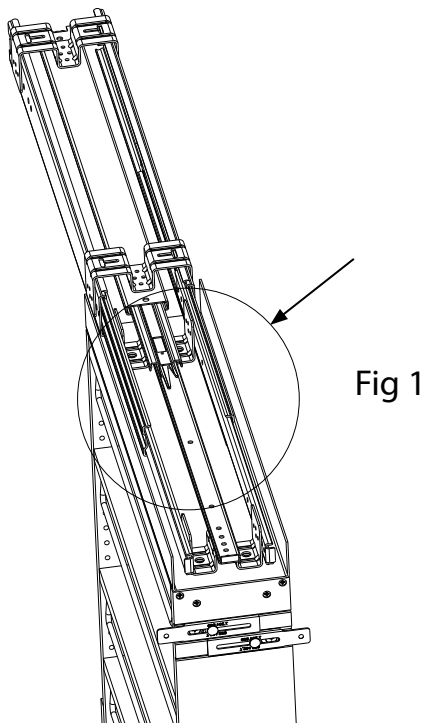
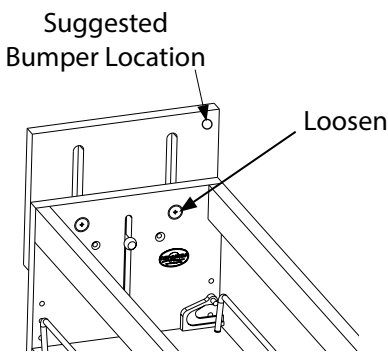

Fig 1
Fig 3
- 1) Remove cabinet member of the tri-slide from the pullout unit. It is recommended that the middle slide release be triggered first, followed by the two side slide releases. This is done by fully extending the slide (like opening the unit) and pushing the black release lever to the side. Next, slide the intermediate past the lock. Once all (3) release levers are triggered, the tri-slide unit can be removed from the pullout. (See Fig. 1 & 2).
- 2) Using the mounting template provided, pre-drill (4) holes using a 3/32" drill bit.
- 3) Attach the tri-slide cabinet member to the floor of the cabinet in the appropriate location, being sure to center the slide in the cabinet opening. Use the (4) #8 x 3/4" deep thread screws provided.
- 5) Loosen the machine screws at the top back wall of the unit to allow the rear stop to float freely. (See Fig. 3). Raise the rear stop until it catches the rear of the face frame (if frameless application, a block may need to be added to allow the stop to work properly). Once the stop is at the right height, the machine screws can be tightened.